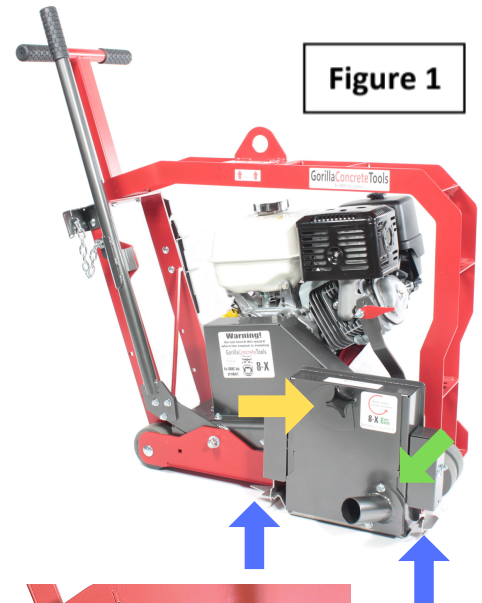
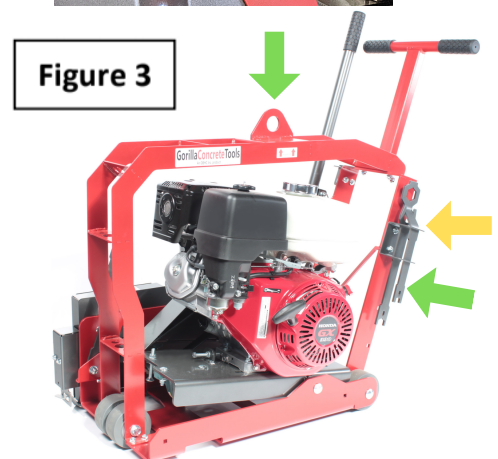

Figure 1
Figure 3
1. Remove dust box door using the 4-arm knob (Fig. 1)
2. Remove the nut and one (1) blade washer
3. Place the blade on the shaft shoulder and reinstall the washer and nut. (Fig. 3)
4. Secure using the supplied shaft/nut wrenches (Fig. 3) and reinstall the blade door and 4-arm knob
- 2-inch dust port: Minimum 250 CFM required for 8-X and 300 CFM required for 10-X (Fig. 1)
- Saw lifting point (Fig. 3)
- Onboard wrench storage (Fig. 3)